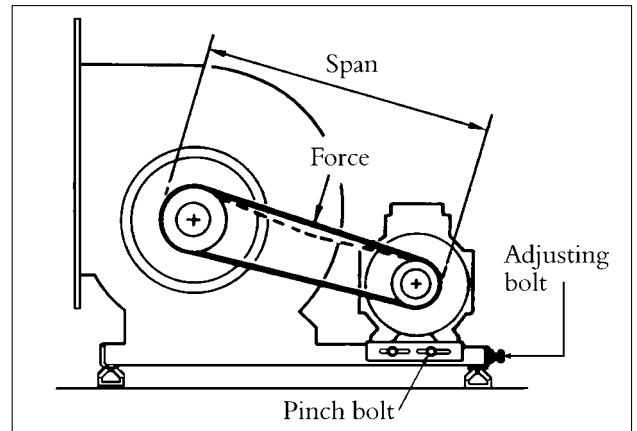

Fig. 13 Tensioning the drive belts on size 'D' units.
1. Measure the span length (See fig. 13).